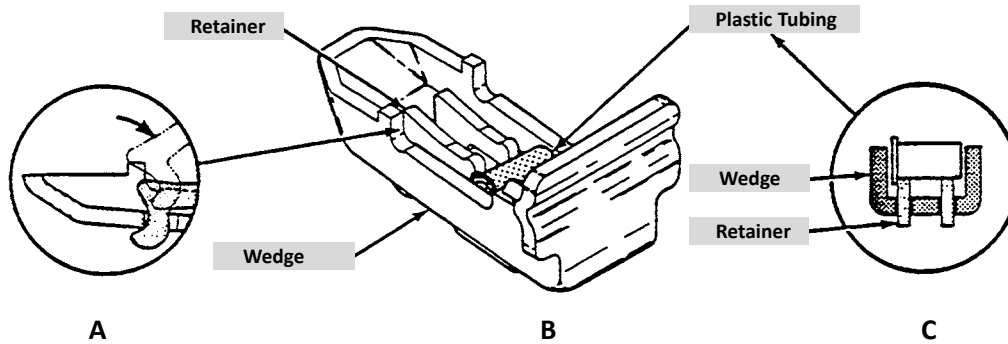

Figure 2 – Systems™ Scaffold Wedge Retainer Assembly
1. Insert the retainer into the wedge (Fig. 2, A). When correctly installed, the retainer is seated in the three slots in the wedge.
2. Insert the plastic tubing across the slot of the retainer (Fig. 2, B and C).
6. Ensure the plastic tubing is positioned so that it seats within the retainer (Fig. 2, C). To complete the installation, use the Systems™ Pry Bar Hammer (SPBH) to pry the wedge to its outward position.